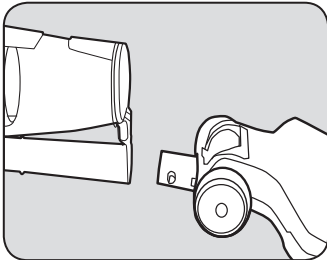

Fig. 7
3. Attach the floor nozzle to the end of the dust cup for cleaning bare floors or area rugs. (Fig. 7)